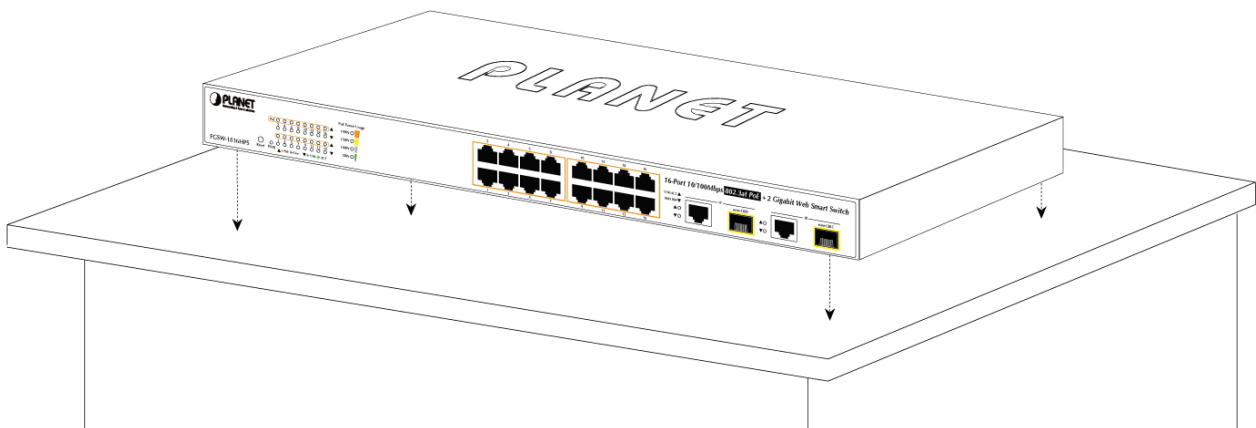

Figure 2-4 Place the PoE Web Smart Switch on the desktop
Step 2: Place the PoE Web Smart Switch on the desktop or the shelf near a DC or PoE-in power source, as shown in Figure 2-4.